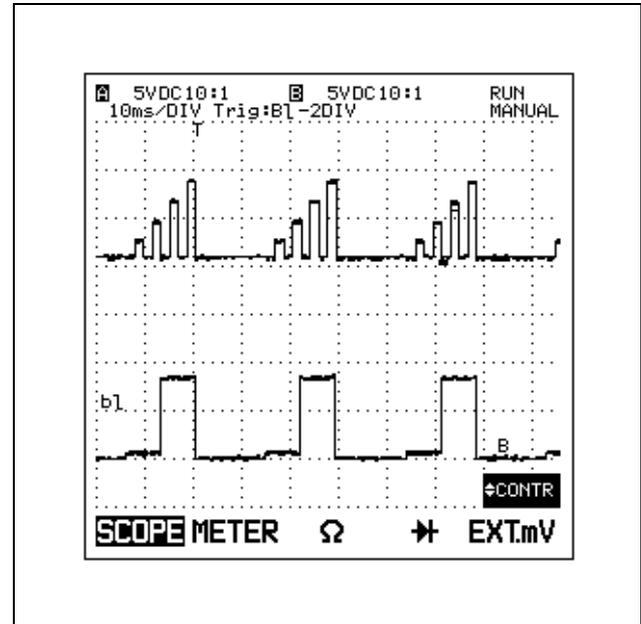

Figure 8-10 Stable Triggering on INPUT B
5. Use MOVE ∇ on INPUT B to position the B waveform at the bottom of the display (see Figure 8-10).